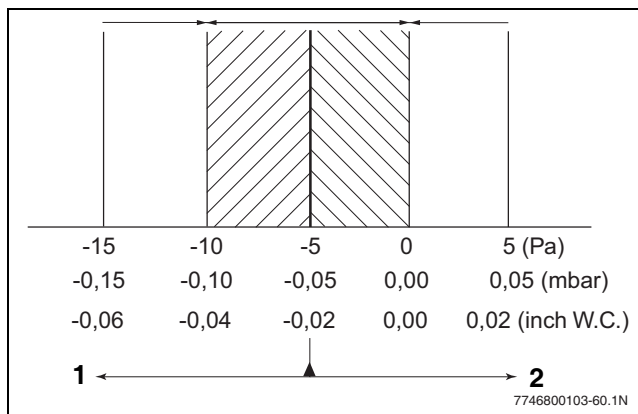

Fig. 68 Air/gas difference at part load
- Read the differential pressure. The differential pressure ($p_{\text{Gas}} - p_{\text{Air}}$) must be -0.02 inch W.C. (- 5 Pa) (± 0.02 inch W.C. = ± 5 Pa) (read-out on pressure gauge: -0.04 – 0 inch W.C. = -10 – 0 Pa) (→ fig. 68).